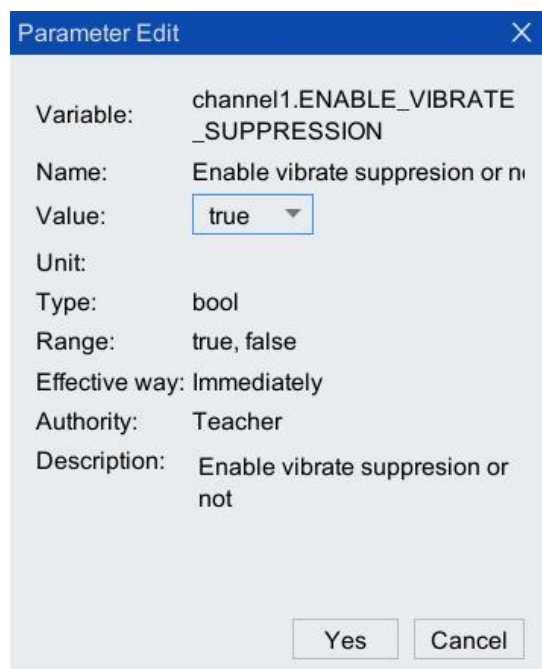

Figure 10-8 Parameter setting page
- Step4. On the parameter configuration page that pops up, configure the value of "Value". True means open, false means closed, and the default value is false. As shown in Figure 10-8.